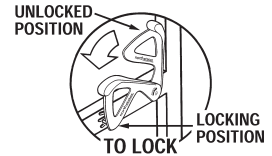

Figure 2
Mount the gate by aligning the four bumpers in the door sockets and rotating the handle and locking it into the slot that gives you enough tension to secure the gate. See Figure 2.
**To close the gate:** Expand gate so the 2 bumpers fit in the sockets. Rotate locking handle and insert handle tab into the slot that gives you enough tension to secure the gate.(see figure 2)